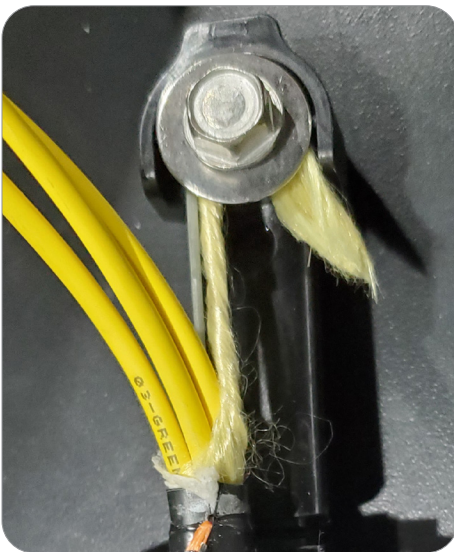

Figure 45
3. If cable contains a central strength member and/or aramid yarn, cut to length to secure (Figure 45). Once under the strength member retention, secure strength members under retention bolt without trapping or pinching tubes (Figure 46).